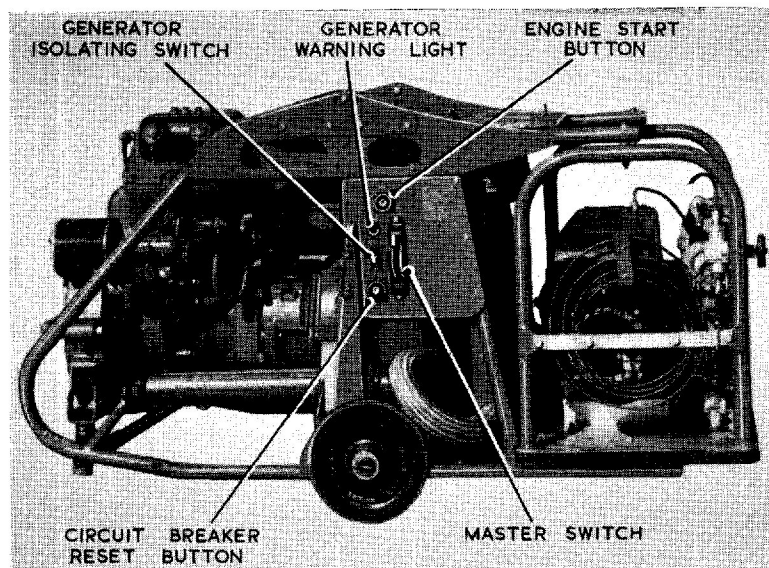

Fig. 4. Switch panel
10. A Type D1/B circuit breaker operating in conjunction with a Type A differential cut-out is used to make and break the connection between the positive line of the Type P3 generator and the master switch Type C, which is located on the side of the unit (fig. 4). Generator overload protec-
- (3) (a) Connect starting cable between the aircraft 28V N.A.T.O. plug and the auxiliary power plant N.A.T.O. plug.
- (c) Close the engine choke and press the starter button (fig. 4).